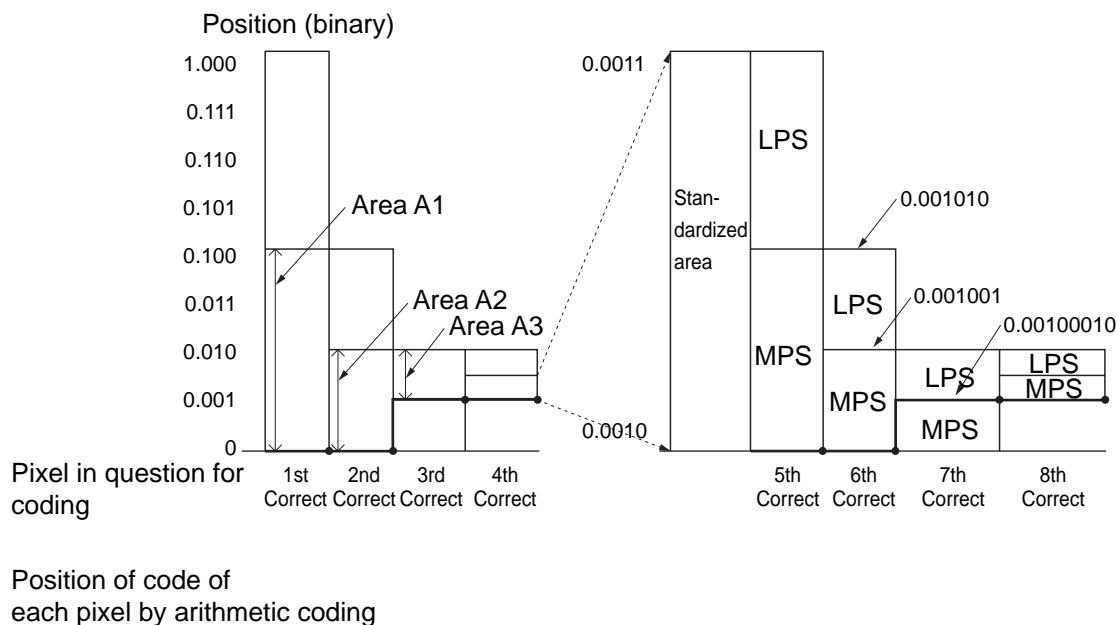

Figure 2-407 Conceptual Diagram of Arithmetic Coding
- f. Unlike the conventional MH or MR coding method, coding (arithmetic) by the arithmetic coding block does not use a conversion table. It rather uses LSZ (area, indicating an estimate of making a wrong prediction), and codes data by expressing the progress of making correct prediction in terms of a numerical line (between 0 and 1.0). Codes expressed on this numerical line, as shown in Figure 2-407, will be under MPS if the prediction is correct and under LPS if the prediction is wrong.